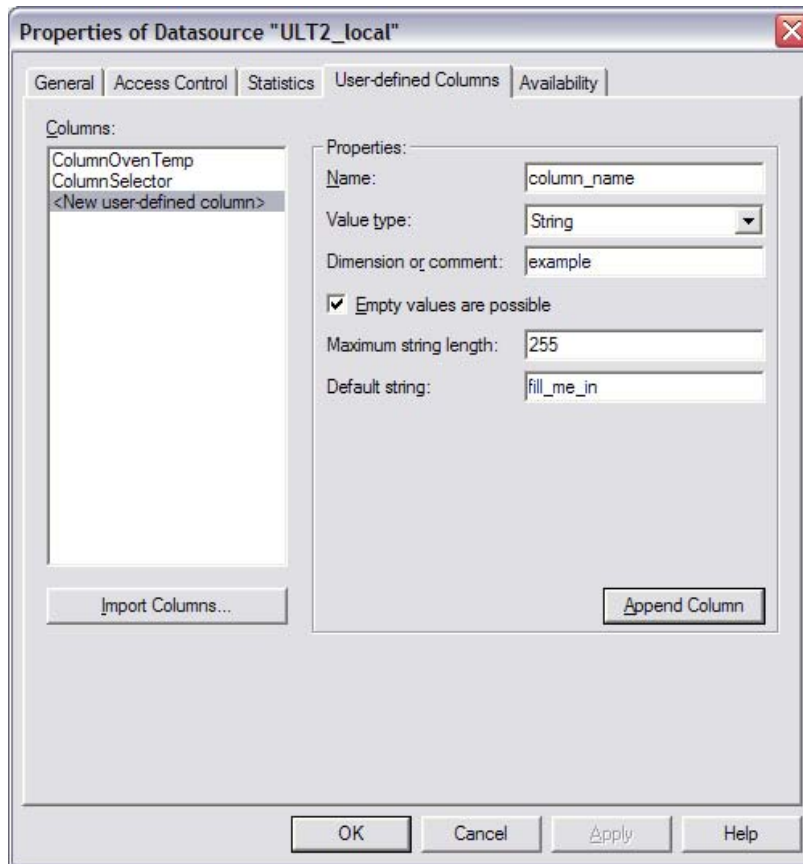

FIGURE 3-6: User Defined Columns tab from the Datasource Properties.
UDC can be created or an existing one can be modified on the **User-defined Columns** tab (FIGURE 3-6).
In the window in FIGURE 3-6 two columns are already defined, **ColumnOvenTemp** and **ColumnSelector**.
2. Click properties and select the **User-Defined Columns** tab (FIGURE 3-6).